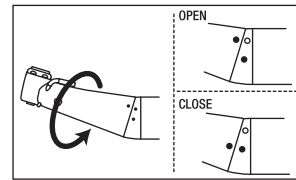

Fig. 11
- 4) Turn the head in the direction of the mark ● until it clicks. (Fig.11)
When assembling the handpiece on the motor, confirm that the mark ● on the handpiece is aligned. (Fig.11) If the handpiece is assembled on the motor with the mark misaligned, the handpiece cannot be correctly assembled on the motor or the head may come loose and come off.